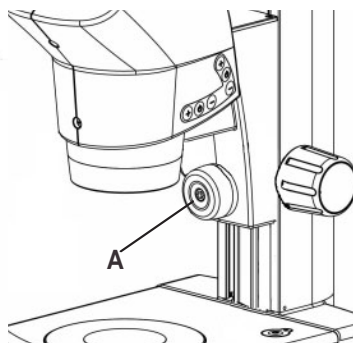

Fig. 2
1. Open the dummy Goose neck mount using 4.0mm Allen wrench and secure the coupling connectors carefully (A) refer fig. 2.